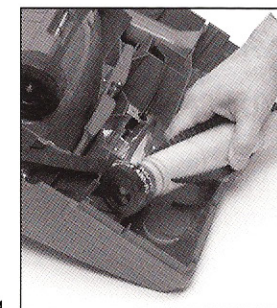

Fig. 22
3. Loop new belt around the agitator pulley and the motor drive shaft and re-insert the agitator assembly back into the housing. Turn the agitator assembly by hand, making sure the belt is not twisted and all rotating parts move smoothly [Fig. 22].